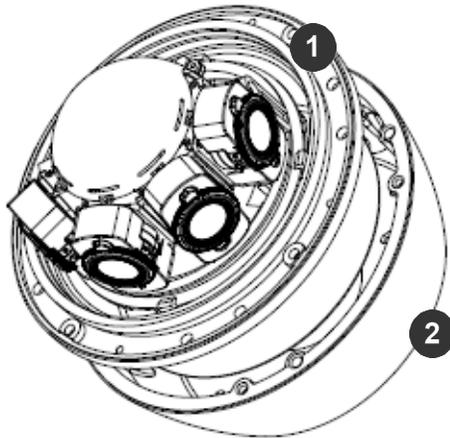

Figure 4: Remove in-ceiling mount from surface mount housing
2. Loosen the four (4) machine screws with user-supplied #2 Phillips head screwdriver and remove the in-ceiling mount housing from the surface mount housing (see Figure 4). Set surface mount housing aside for future use.